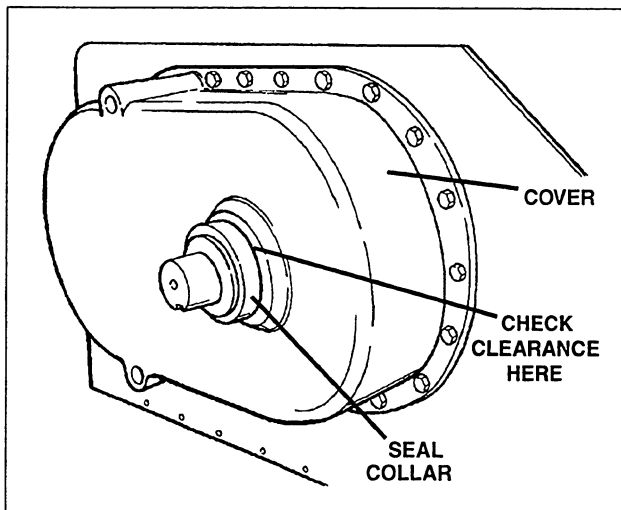

Figure 4-21. Using Seal Collar to Adjust Cover Position
- A. Slide spacer collar (49) on the protruding end of shaft (48).
- C. Place gasket (37) and cover (50) on the dowel pins.
- D. Inject silicone sealant (refer to Table 3-1, Item 1) into open cover bolt holes of vibrator housing (20).
- E. Center cover (50) on the dowels and loosely install capscrews (46) and washers (47) around the circumference of the cover.
F. Remove the dowels used to support the cover and inject silicone sealant (refer to Table 3-1, Item 1) into the remaining cover bolt holes. Loosely install remaining capscrews (46) and washers (47).
G. Tighten all capscrews (46) only enough to allow adjustment of cover in Step H. Do not final tighten at this time.
H. Place labyrinth seal collar (53) on the end of shaft (48), as shown in Figure 4-21. Adjust the cover, as required, to obtain equal clearance at four points spaced at 90 degrees apart between seal collar (53) and cover (50). This will ensure that oil seal (51) is centered between shaft (48) and cover (50).